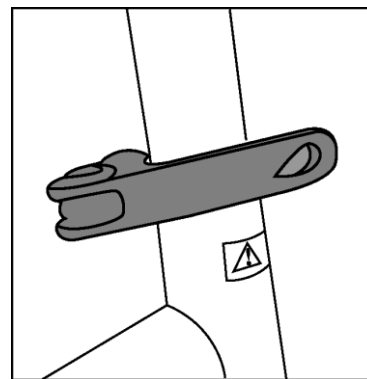

Figure 2: Saddle clamp
- **Seat clamp:** see figure2. This clamp allow you to set the saddle to the correct height. Make sure these clamps are securely fastened.